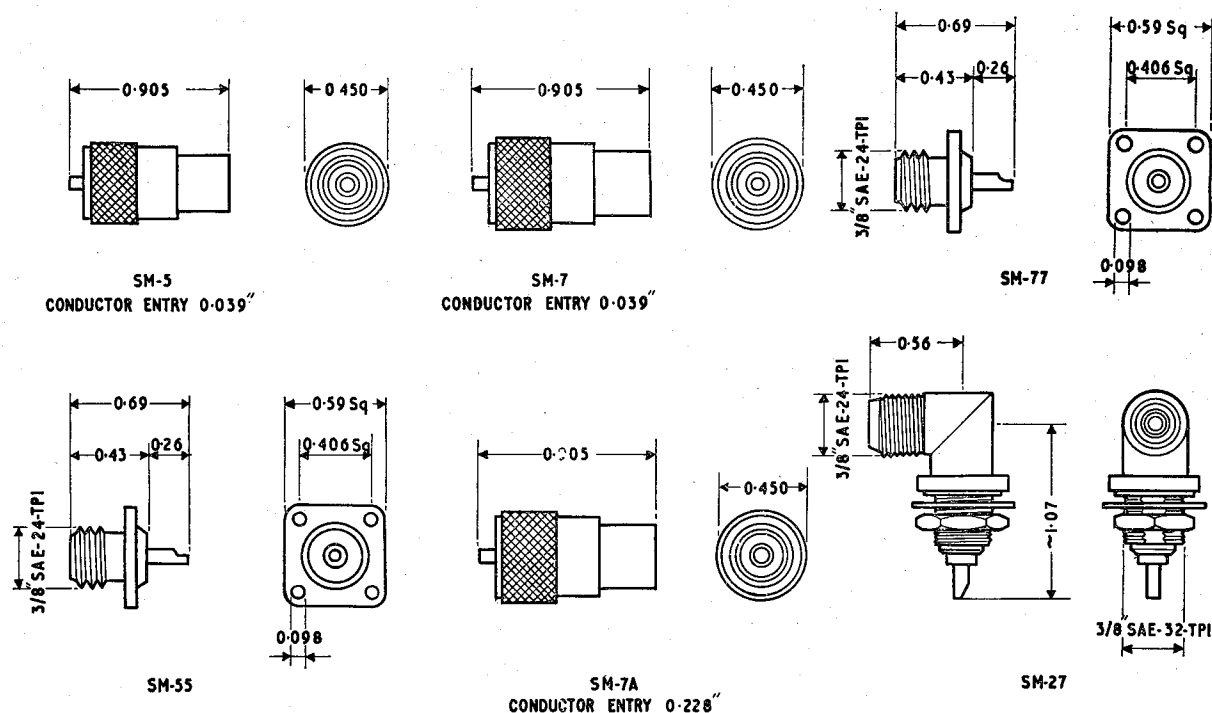

Fig. 2. Arrangements and dimensions
3. Apart from the coupling ring of the plug type connectors, these connectors may not be dismantled at the internal insulation and contact pins are integral with the shells, to ensure accurate contact alignment and impedances. The shells are of machined brass, silver plated and coated to prevent oxidization. The insulation between the shell and the contact pin is of Teflon, and the contacts are made of brass, silver plated. The overall dimensions and general arrangement of the connectors in this series are shown in fig. 2. Table 1 details the types and reference numbers.